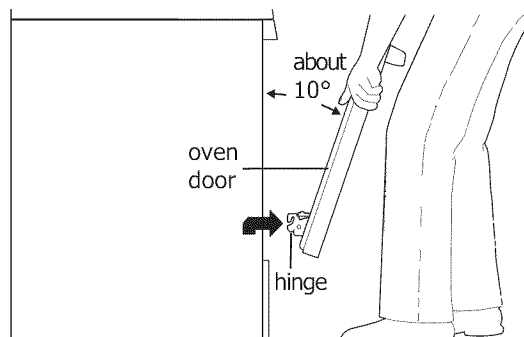
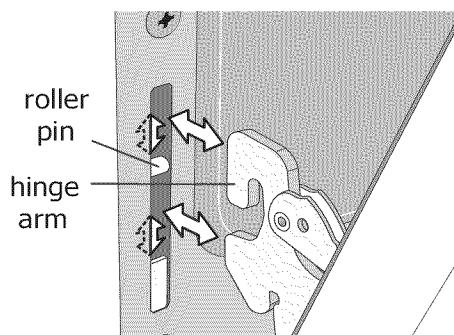

Figure 21: Holding door for removal
Figure 22: Location of hinge arm and roller pin
3. Firmly grasp both sides of oven door along the door sides. Do not use the oven door handle (See Figure 21).
5. Lift the oven door hinge arms over the roller pins located on each side of the oven frame (See Figure 21).
1. Firmly grasp both sides of oven door along the door sides. Do not use the oven door handle (See Figure 21).
2. Holding the oven door at the same angle as the removal position (See Figure 21), seat the hook of the hinge arm over the roller pins located on each side of the oven door frame (See Figure 22). The hook of the hinge arms must be fully seated onto the roller pins.